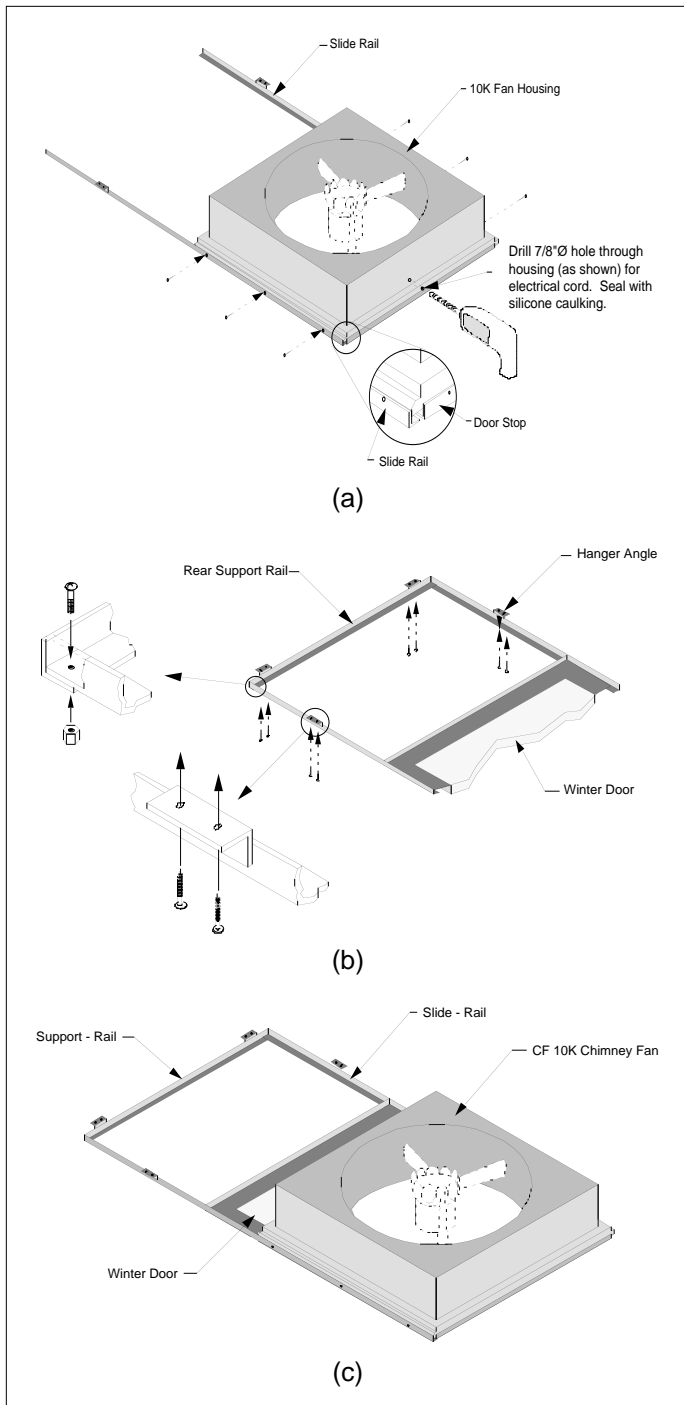

Figure 3 Winter door installation
1. Attach the slide rails and door stop to the fan housing as shown in Figure 3 (a) using the screws supplied.
3. Secure the rear support rail to the slide rails using the bolts and nuts supplied and mount the rails to the ceiling with the screws supplied (Figure 3 (b)).
4. Ensure winter door slides freely yet fits snugly in the slide rails with only slight free movement. Make any necessary adjustments to the rails to achieve a snug, free sliding fit. An assembly is shown in Figure 3 (c).